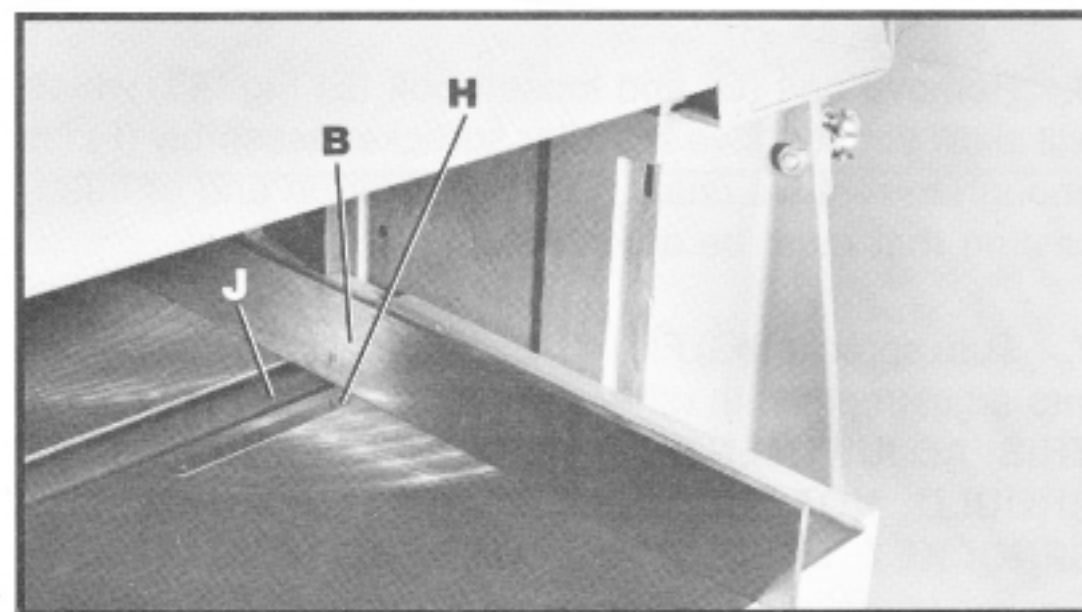

Fig. 38
1. With a feeler gage (H) Fig. 38, measure the gap between the table surface and the straight edge (B) near the outfeed roller (J).